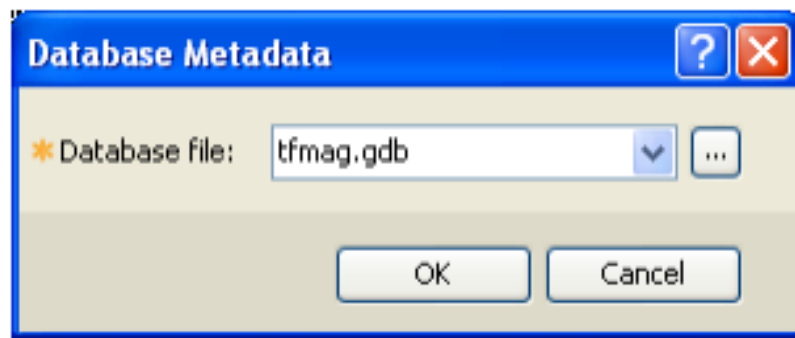

Figure 1.78. – Database metadata
2. From the *Database (or Map, MXD, Grid and Image, 3D Tools)* menu(s), select *Metadata*. The *Database Metadata* dialog (or the appropriate data type dialog i.e. *Map Metadata, Grid Metadata*, etc.) will be displayed Database Metadata, fig. 1.78.